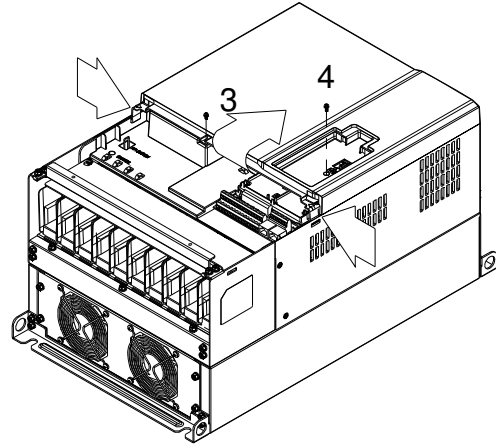

Figure 2
1. Loosen screw 1 and screw 2, press the on the right and the 2. (Figure 2) Loosen screw 3, press the tab on the right and the left to remove the cover, follow the direction the arrows indicate. Press on top of digital keypad to properly remove it. Screw 1, 2 『Torque :12~15kgf-cm (10.4~13lb-in)』
- (Figure 2) Loosen screw 3, press the tab on the right and the left to remove the cover. Screw 3, 4 『Torque : 6~8kgf-cm (5.2~6.9lb-in)』